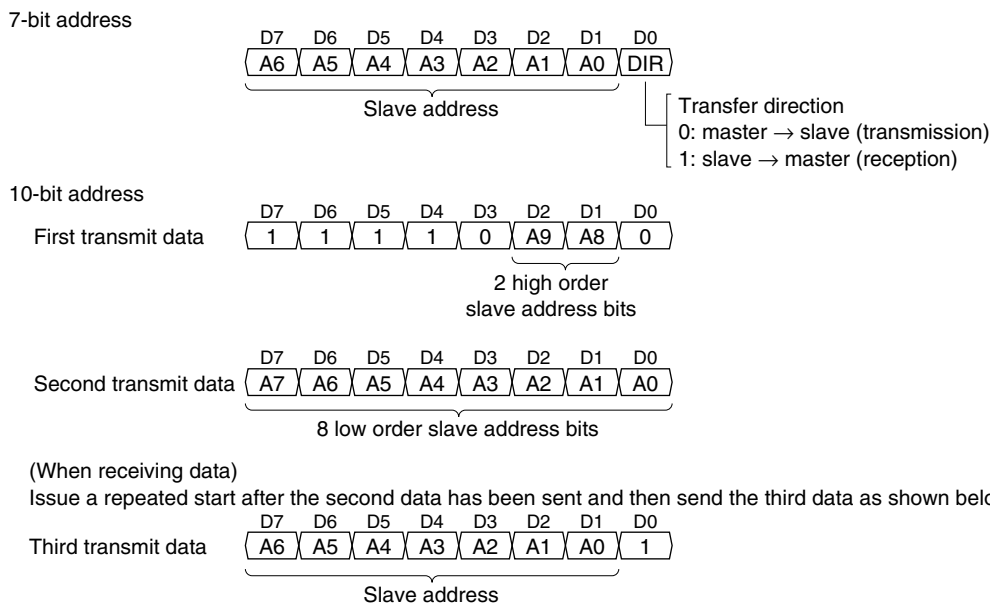

Figure 20.5.2 Transmit Data to Specify Slave Address and Data Direction
1. Set the slave address to RTDT[7:0] (D[7:0]/I2C_DAT register). (First transmit data when 10-bit address is used; see Figure 20.5.2.)
After a START condition has been generated, the I²C master (this module) sends the address of the slave to communicate and a bit to specify data transfer direction. The I²C module supports two slave address sizes: 7-bit slave address and 10-bit slave address. The I²C module sends the slave address bits with the transfer direction bit using the 8-bit transmit/receive data register. So one 7-bit slave address can be sent at a time. A 10-bit address should be sent in two parts or three parts with software control. Figure 20.5.2 shows the address data format.